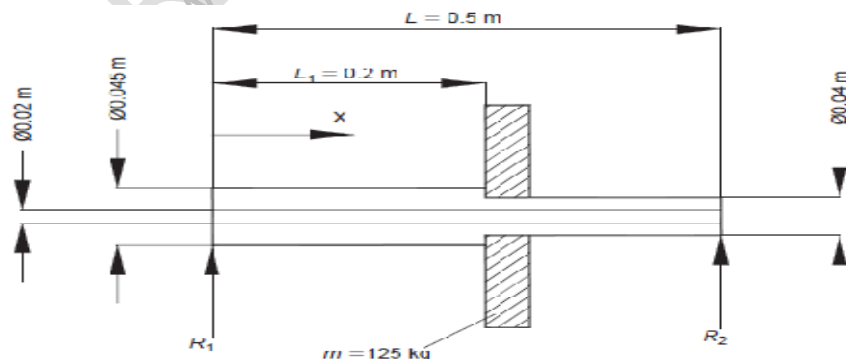

Figure 1
- Determine the deflection of the stepped shaft illustrated in Figure 1 under a single concentrated load.